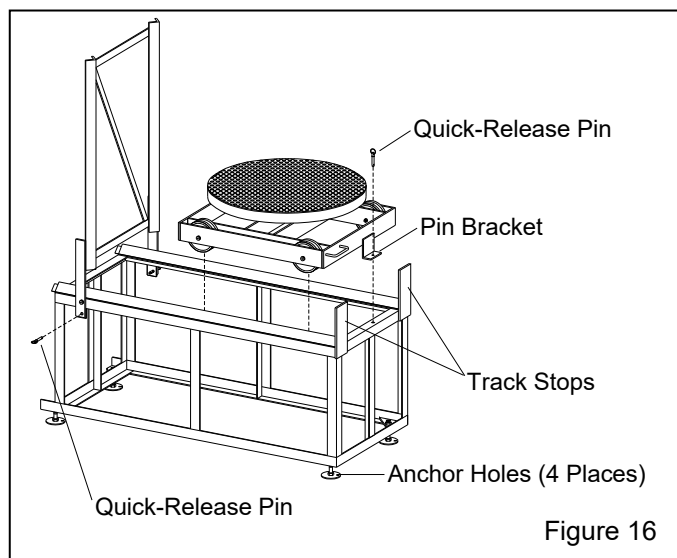

Figure 16
**3.5.4.4** The quick-release pin holds the hinge track when in the raised position, as shown in Figure 16.
### 3.5.5 Turntable work cart and hinge track operations – Figure 16